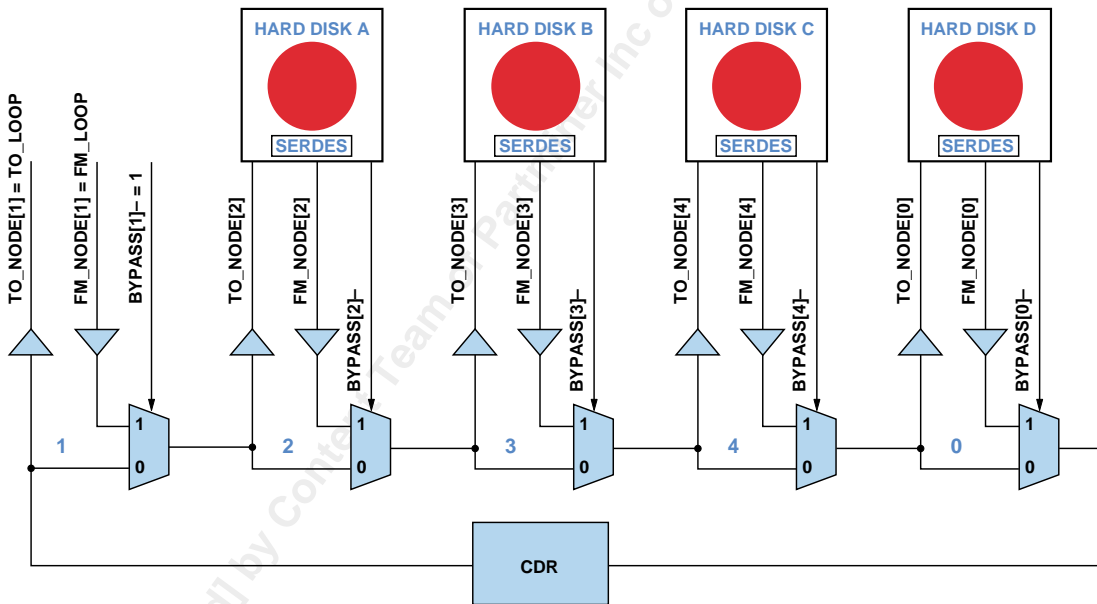

Figure 5. Connection diagram. Case of CDR at last cell.
and hard disk slots A to D must be connected to PBC cells 2,3,4,0 in that order (Figure 5). Table 2 shows all possible connections. In case of CDR at entry, a Signal Detect (SD) pin shows the status of the signal at the incoming cable. The recommended method of setting the BYPASS[i]- pins HIGH is to drive them with a high-impedance signal. Internal pull-up resistors will force the BYPASS[i]- pins to V_{CC}.